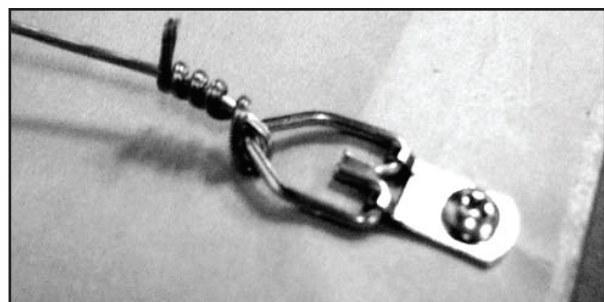

Fig.3
1. Turn adjustment screw to increase tension for hardwoods or decrease tension for softwoods. (**Fig. 3**)
3. Lay paper flat onto table and drop the frame straight down onto the paper with taped side down and artwork side facing up. **(Fig. 3)**
To attach the wire, insert one end through the D-Ring of your strap hanger (**Fig. 3**) and coil it around itself several times.